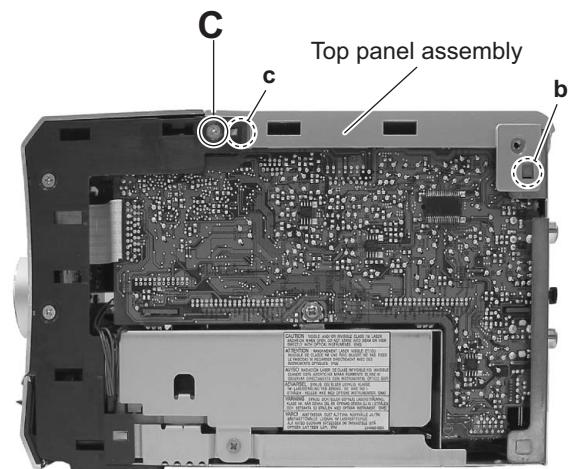

Fig.5
(See Figs.5 and 6)
- (1) From the both sides of the main body, remove the two screws **C**. (See Figs.5 and 6)
- (3) From the both sides of the main body, release the joints **b** and **c**. (See Figs.5 and 6.)